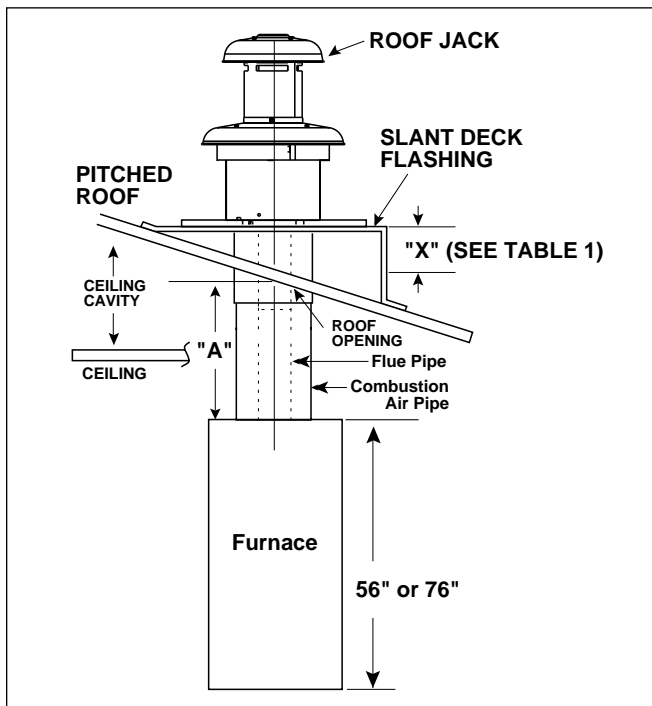

Figure 1.
1. Determine the depth of the ceiling cavity from the center of the roof opening to the top of the furnace (see dimension "A" in Figure 1).